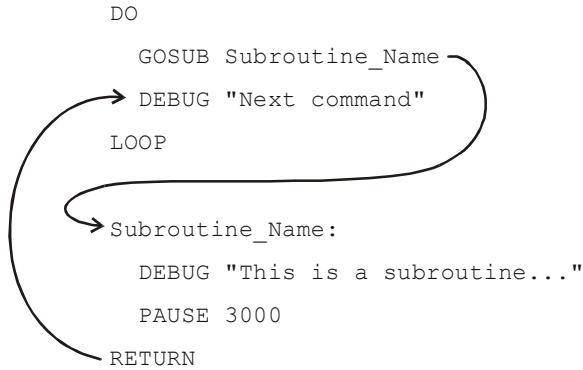

Figure 7-11
- √ Add the subroutine example in the Figure 7-11 on page 203 to SimpleSubroutines.bs2.